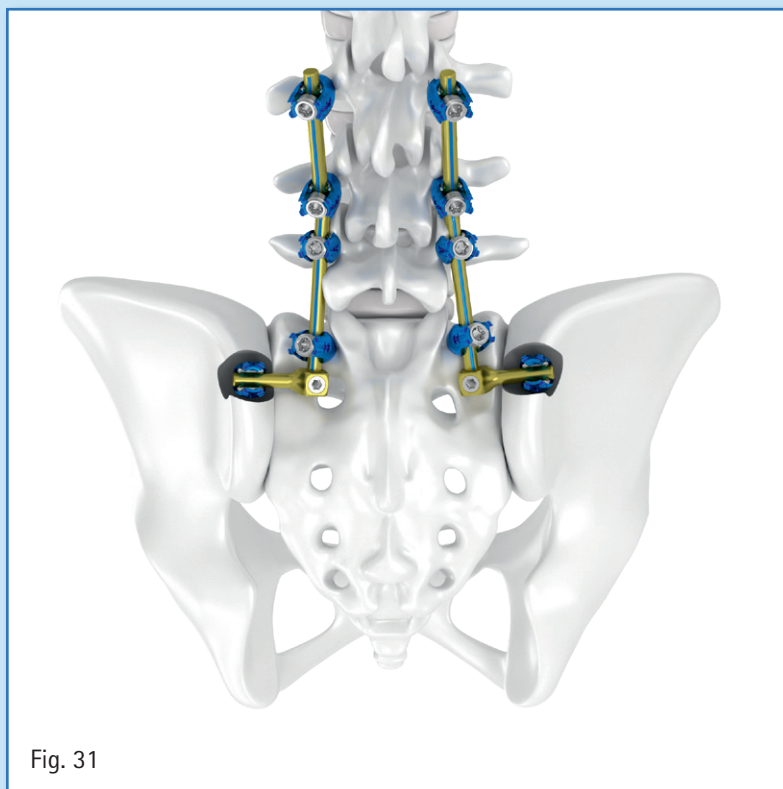

Fig. 31
5. If the Rod Connector fits properly and is fully seated, perform final tightening of the Lateral Offset cConnector. (Fig. 31)